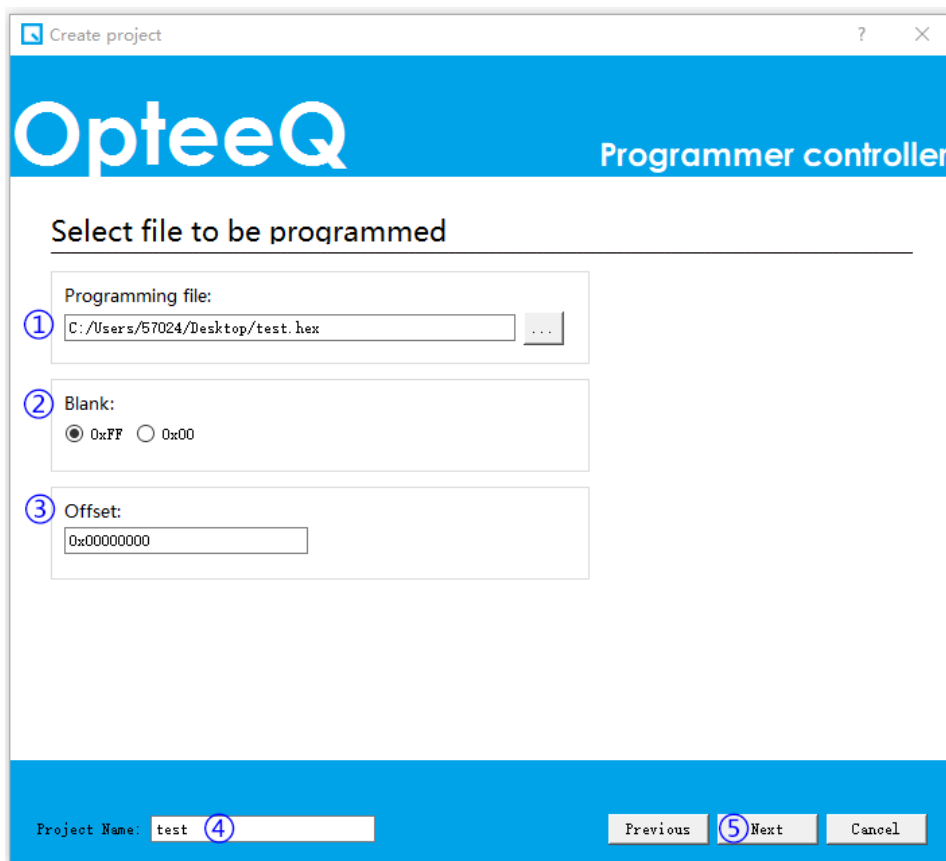

Figure 4.13: Step 3 - Project Creation Interface
3) Step 3: Select the programming file (as shown in Figure 4.13). Notes: The project creation interface varies among different chips.
It is needed to select the code file to be programmed into the target chip (as shown in Figure 4.13-①).
Then, please set the baseline value for programming (as shown in Figure 4.13-②).
Set the offset value (as shown in Figure 4.13-③).
It is needed to input the project name (as shown in Figure 4.13-④) after settings above.
Finally, click "Next" (as shown in Figure 4.13-⑤).
Notes: The baseline value (Figure 4.13-②) and offset (Figure 4.13-③) value may be default values, or may be changed according to the user's needs.